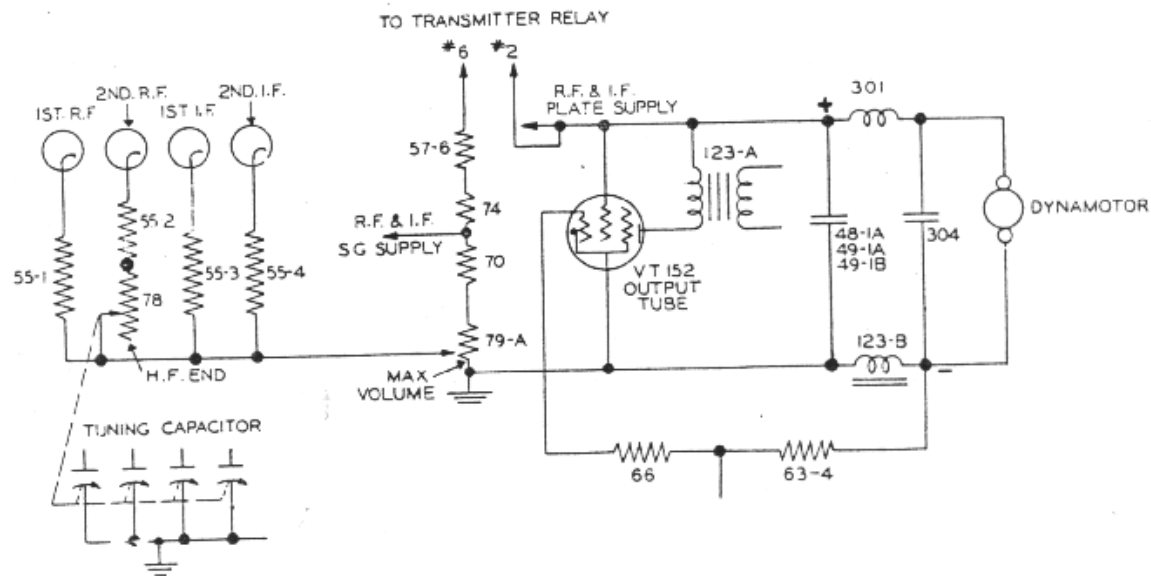

Figure 4-4 Load Compensator and Bleeder Circuit, Simplified Diagram
(1) The high level signal diode supplies audio output for driving the output tube, tube JAN-6K6, without additional audio amplifier stages and high level detection results in a number of operating advantages. The high level detection is relatively free from distortion, due to avoiding the characteristic curvature at the lower end of the diode curve. The direct drive of the output tube from the diode detector simplifies the dynamotor ripple filtering and eliminates possible microphonics resulting from high audio amplification. The high diode level further provides relatively high bias voltage, insuring an unusually flat automatic volume control characteristic with the desired time delay. The dual volume control comprises potentiometers 79-A and 79-B. The latter, 79-B, functions only with the switch 129 in the AVC position, permitting the desired adjustment of the audio level to the output tube and load. For manual volume control with switch 129 in the MVC position, the potentiometer 79-A becomes the active control operating on the cathode bias of the r-f and the first and second i-f amplifier tubes. These potentiometers have two linear resistance tapers providing a smooth variation of sensitivity. Automatic load compensation is obtained by the method of biasing the output tube. Here, the grid bias is obtained from the resistance drop across the dynamotor filter reactor; thus, any tendency towards a decreasing load on the dynamotor results in a slight decrease in the bias of the output tube with a compensating increase in the load current. (See Figure 4-4.) Tube JAN-6K6 provides more power than necessary to operate a number of headsets in parallel.
(2) The characteristic increase of internal receiver noise, when tuning from the low to the high frequency end of a band, has been corrected by means of the variable resistor 78. The function of this potentiometer can be more clearly understood by reference to Figure 4-4. Here the noise compensator resistor 78 is mechanically connected to the shaft of the ganged tuning capacitor with an electrical connection to give minimum resistance at the low frequency end of the band. The cathode return lead of the second r-f amplifier tube connects to the noise compensator resistor 78. The gain of this stage is thereby decreased proportionally as the r-f tuned circuit impedance increases (when tuning toward the higher frequency end of the frequency band). This arrangement tends to keep the noise level and receiver sensitivity essentially constant over the tuning ranges.